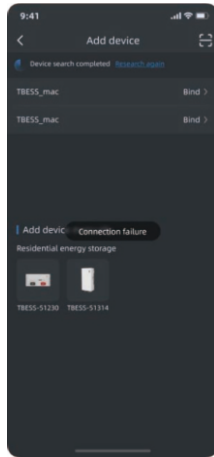

Figure 3
- 3) Figure 3: Add again after restarting the device.